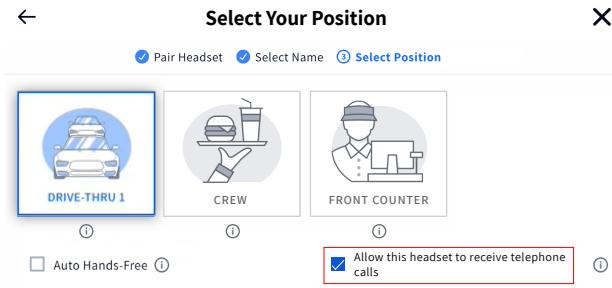

Fig. 12.5
4. When the **Select Your Position** dialog appears, select a position and check the box labeled: Allow this headset to receive telephone calls. See Fig. 12.5. (Since only one headset can be designated to receive phone calls, checking the box forces any previous headset assigned out of this mode.)